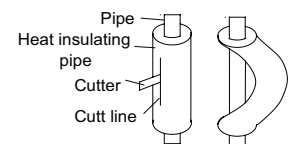

Fig.9
- (4). When bending the pipe, do not bend it as is. The pipe will be collapsed. In this case, cut the heat-insulating pipe with a sharp cutter as shown in Fig.9, and bend it after exposing the pipe. After bending the pipe as you want, be sure to put the heat-insulating pipe back on the pipe, and secure it with tape.